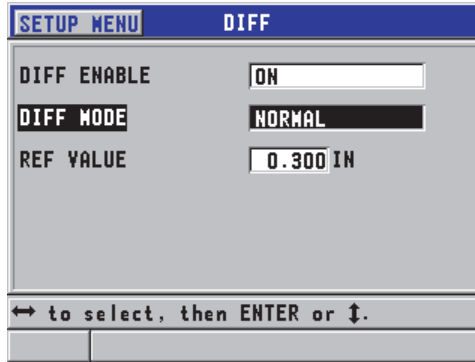

Figure 7-2 The DIFF screen
2. In the **DIFF** screen (see Figure 7-2 on page 131):